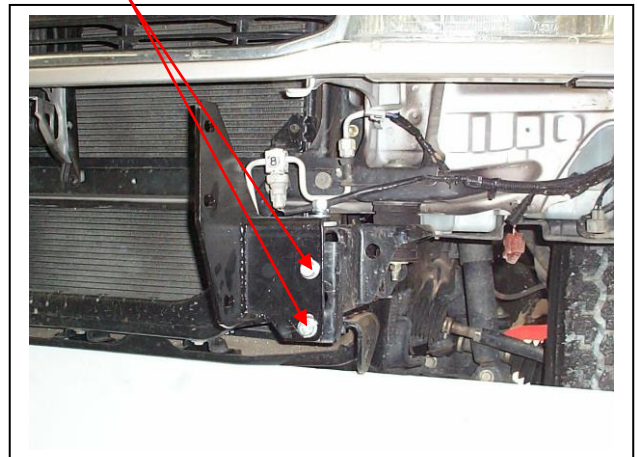

Figure 2 – Passenger side shown
7. Attach ECB steel mounting brackets (supplied) to vehicle. **NOTE:** Tilt steel mounting brackets slightly in toward centre and feed onto chassis. Use M10 x 30 x 1.25 bolts (supplied) in place of original bumper sub frame bolts. **DO NOT TIGHTEN. See figures 2 and 3.**